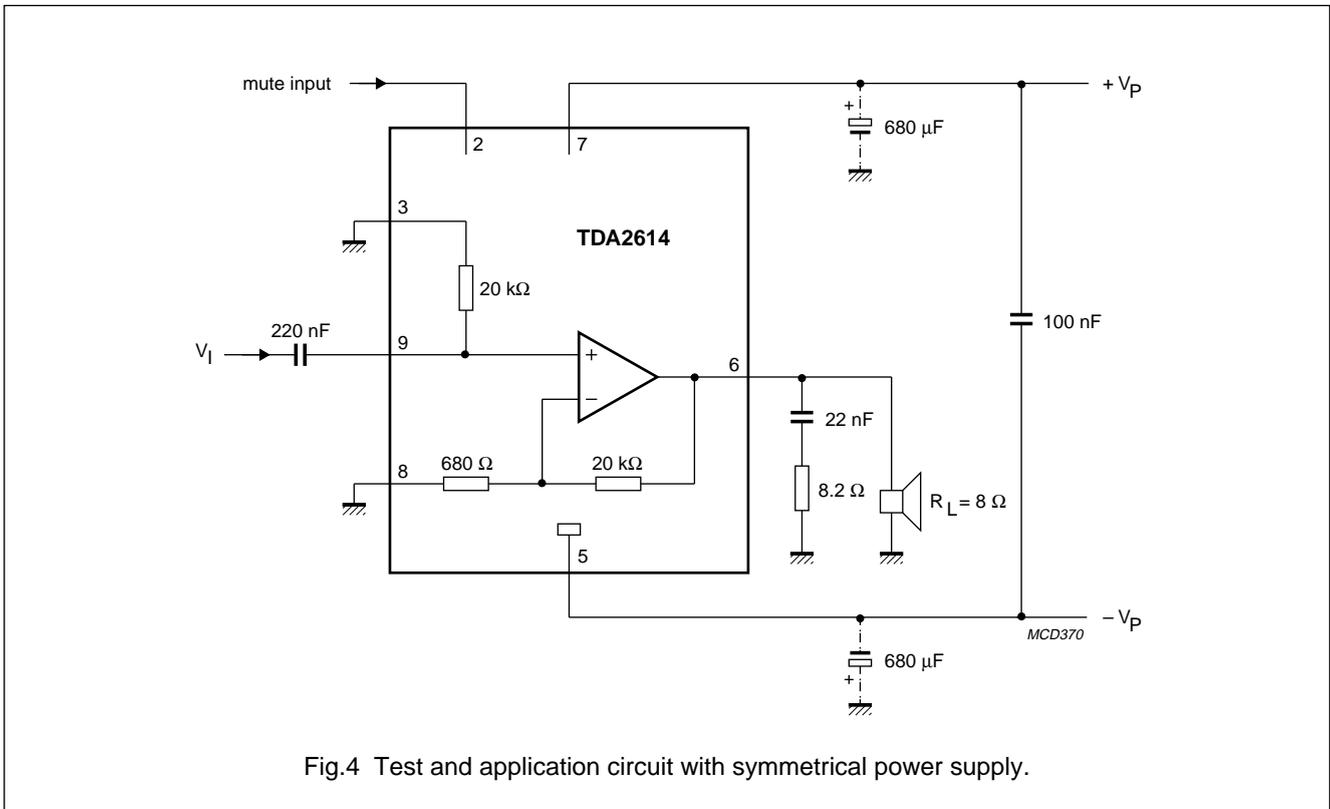

Fig.4 Test and application circuit with symmetrical power supply.
- $\pm V_P = 12\text{ V}$ ;  $R_L = 8\ \Omega$ ;  $T_{amb} = 25\ ^\circ\text{C}$ ;  $f = 1\text{ kHz}$ ; symmetrical power supply  $I_{MUTE} < 30\ \mu\text{A}$ . See Fig.4